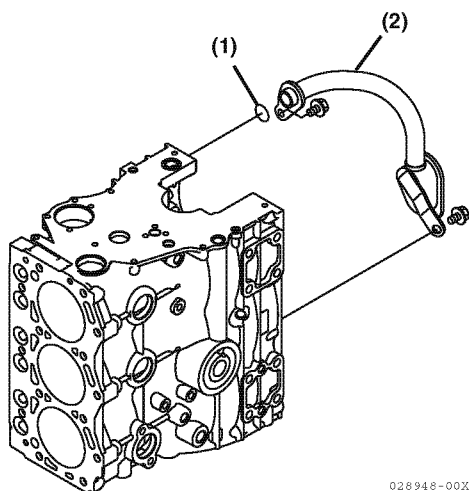

Figure 5-92
Remove the oil inlet tube (Figure 5-92, (2)) and O-ring (Figure 5-92, (1)).